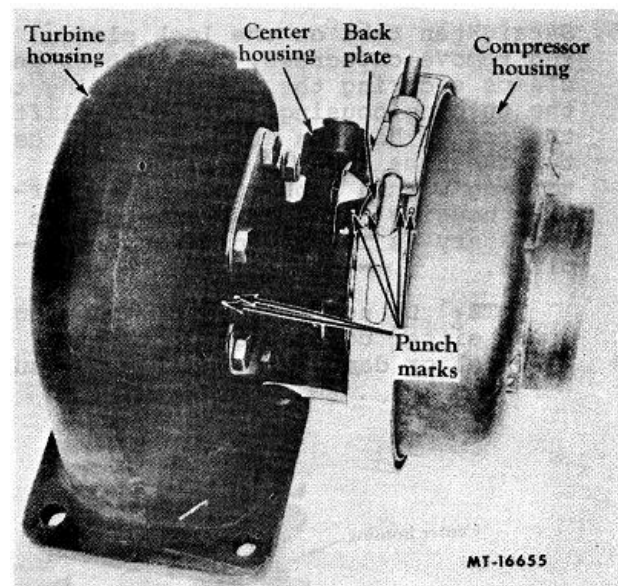

Fig. 11 Related Positions of Parts
3. Mark the assembled position of parts (Fig. 11) as follows: